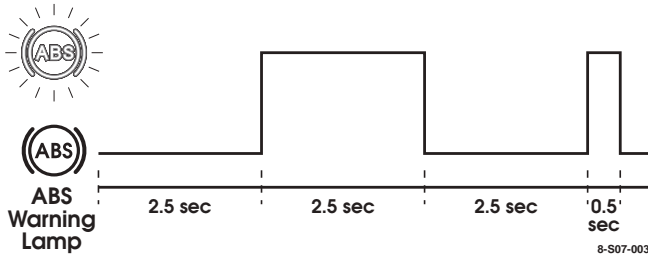

Figure 7-45: Blink Code Sequence For Start Phase.
3. The *start phase* consists of the ABS warning light flashing in the following sequence (Figure 7-45):